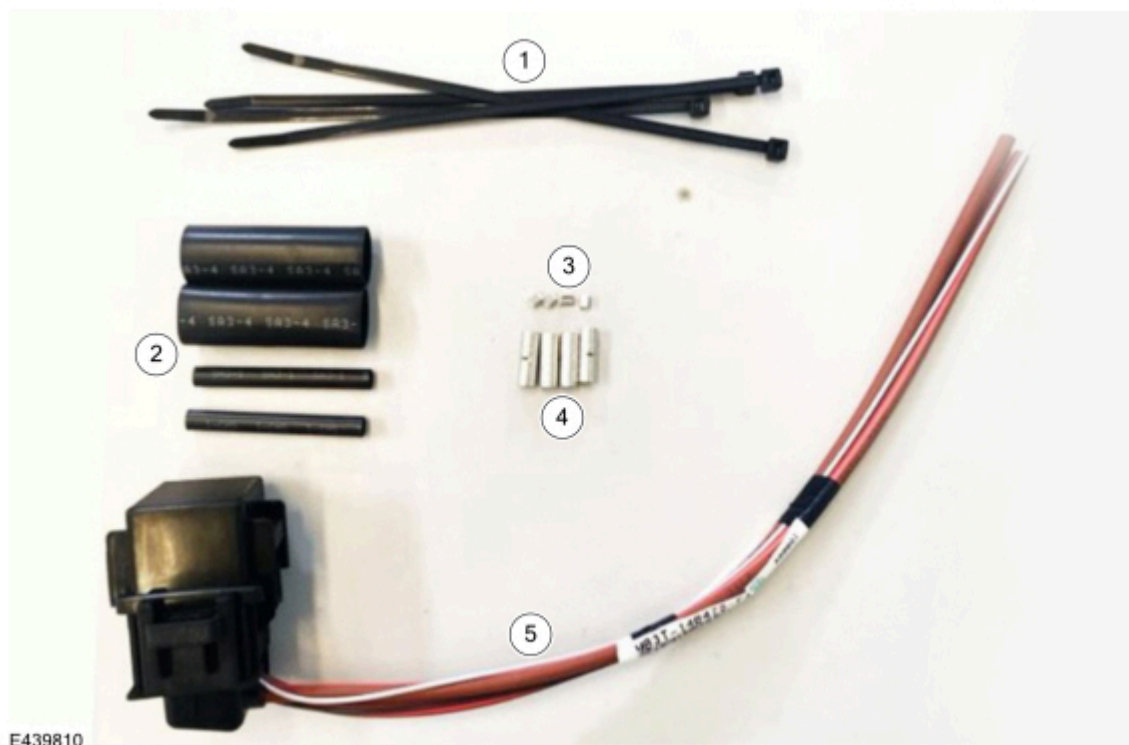

Figure 8
8. Replace both the cooling fan relay and terminal connector using the released service pigtail kit Part Number MB3Z-14S411-E (Figure 8). Refer to the **Wiring Repair and Splice Operation Procedure** below and the recommended splicing method shown in the Professional Technician System (PTS) - Wiring tab - Cell 005 Connector Repair Procedures - Pages 5 to 9 and refer to the Wiring Pigtail Kit/Wiring Terminal Kit Guide shown in PTS.